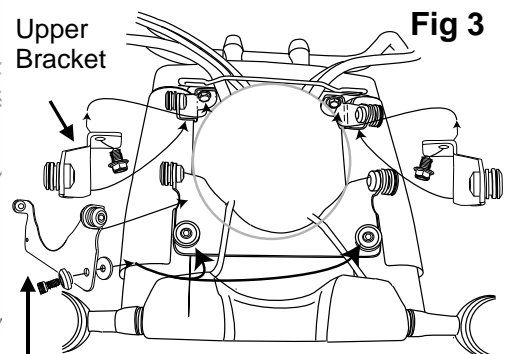

Fig 3
6. Locate the two threaded holes in the underside of the upper triple tree (one on each side) and **loosely** install the left and then the right bracket assembly using (shorter) 8mm X 12mm SS Hex head bolts and 8mm SS flat washers. (see Fig. 3). The bolts will be tightened later, after the windshield is installed. It is easier to start and tighten these bolts from the backside of the fork. Turn the handlebars full left to access the right side and full right to access the left side.
7. Install the lower anchor bracket on the front of the lower triple tree. Use the 8mm socket head cap screws. On each put a 7/8" Beveled socket washer in front, and a 1 1/8" Spacer washer behind the bracket. (Fig 3 and 5)